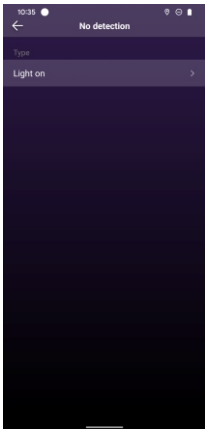
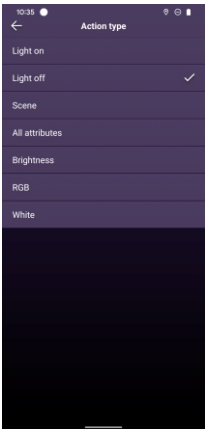
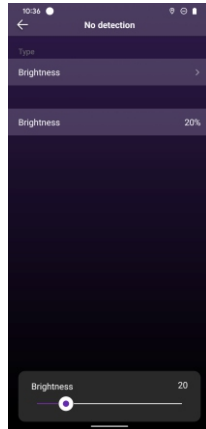

Figure 42
Figure 43
Figure 44
Step 5: Tap the action under "No detection" to set a triggered action when no motion is detected (As shown in **Figure 38 & Figure 42**). Available actions which can be triggered depends on the light device type, the example device is an RGBW device, available actions are: Light on, Light off, Scene, All attributes, Brightness, RGB, White (As shown in **Figure 43**). Here we choose Brightness, and the set the triggered brightness as 20% (As shown in **Figure 44**).